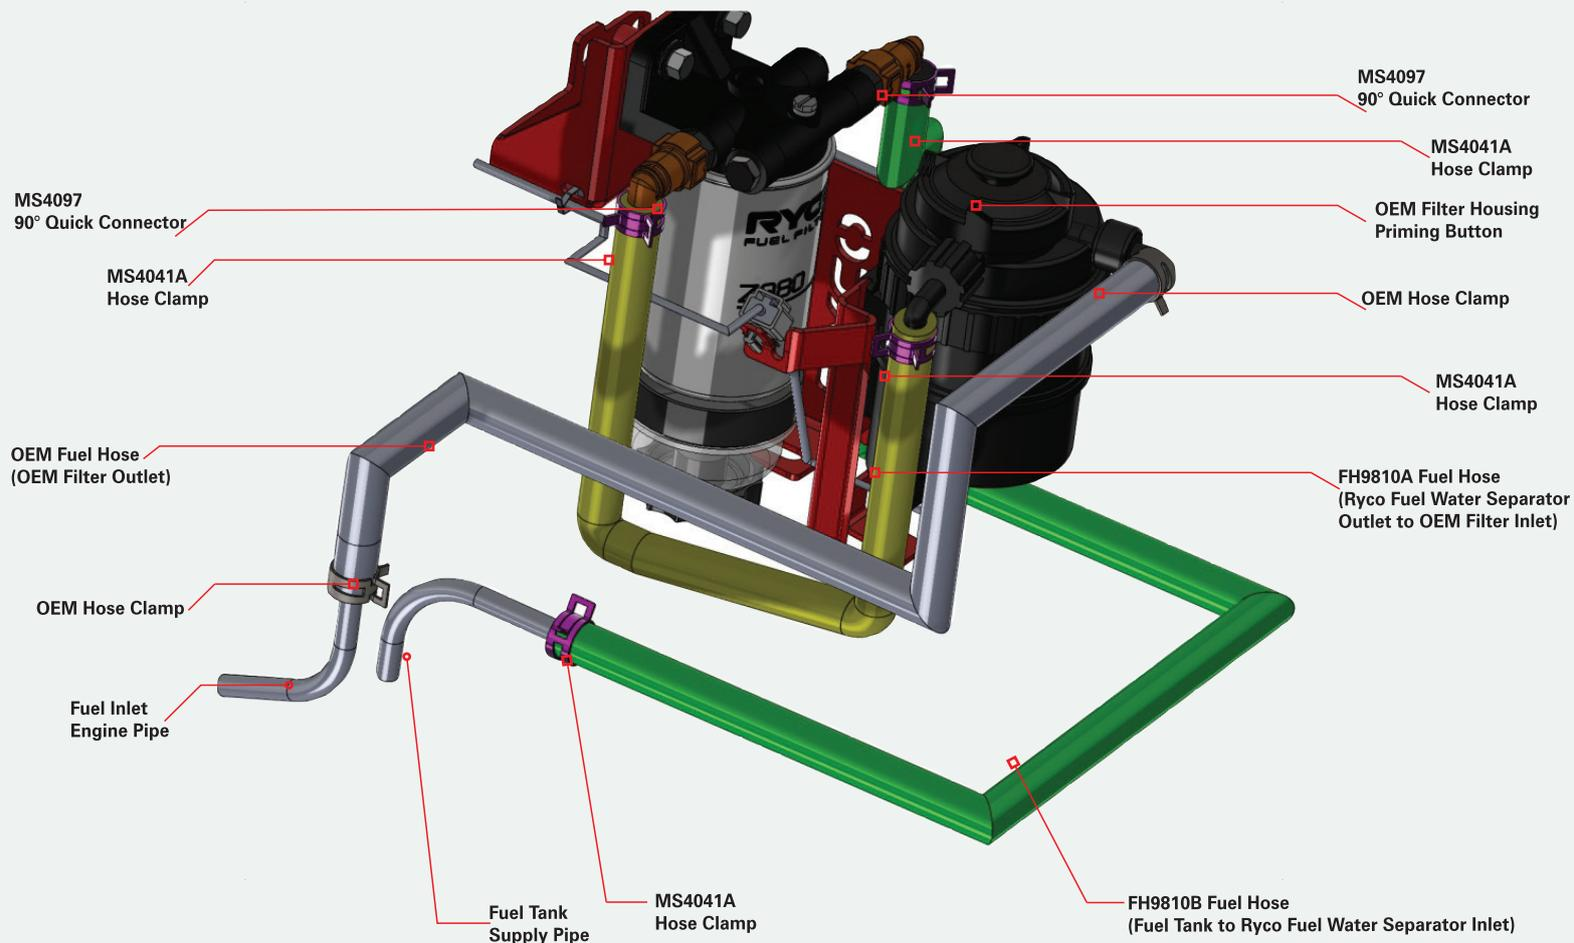

FIGURE 9
- 6 Starting with the longer Ryco fuel hose FH9810B, install the open end of the hose on to the vehicles fuel tank supply pipe, and tighten with the MS4041A hose clamp as shown in FIG. 9 (overleaf).
- 7 Route the hose around the front of the OE fuel filter housing and along the other side of the fuel filter assembly, shown as green in FIG. 9 (overleaf). Connect the MS4097 Elbow Connector to the Z980K16 Inlet Quick Connector. Connection has been successfully made when you hear a 'click' noise.
- 8 With the shorter Ryco fuel hose FH9810A, install the open end of the hose onto the inlet port of OEM fuel filter housing and tighten with the MS4041A Hose Clamp. Route the hose, shown in yellow in FIG. 9. and connect the MS4097 Elbow Connector to the Z980K16 Outlet Quick Connector. Connection has been successfully made when you hear a 'click' noise.